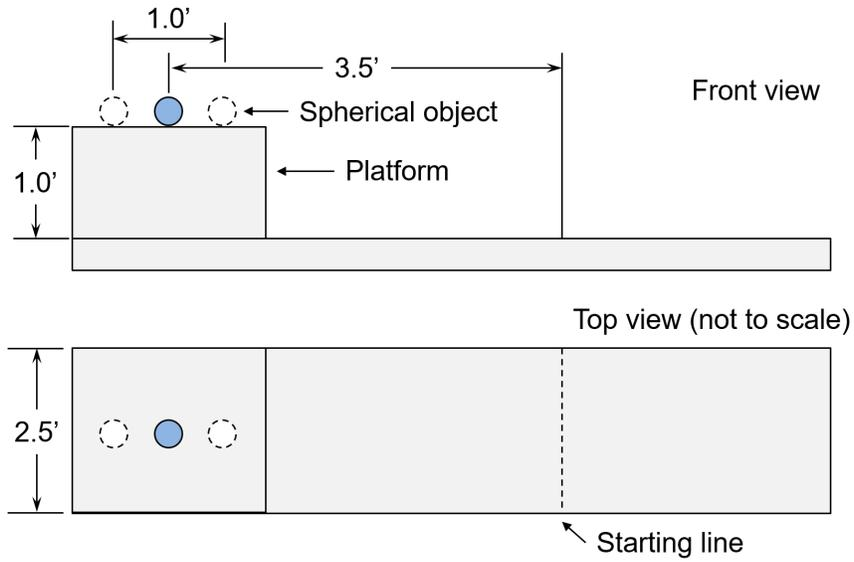

Figure 1. Layout and variable location of spherical object on platform relative to starting line.
**Project Description:** Your team is tasked with designing a robotic collection system capable of retrieving an object sitting on a flat raised platform that is 2.5 feet wide, as depicted in Figure 1. The object of interest is a sphere 3 inches in diameter and 3 ounces in weight. The object is located on top of a platform and is nominally 3.5 feet away from your position and at a height of 1 foot and must be retrieved behind the starting line. The position of the object can vary up to  $\pm 0.5$  feet from this nominal position along the platform mid-line. The system must not encroach closer than 3.5 feet from the object of interest prior to triggering. Assume that the use case for which the system must be designed involves a user: (1) initially positioning the robotic system in any orientation behind the starting line and (2) triggering the system by an electronic signal to the robot's onboard embedded controller. Also assume that the position of the object of interest is not known beforehand and the system must be robust to different positions, as depicted in Figure 1.